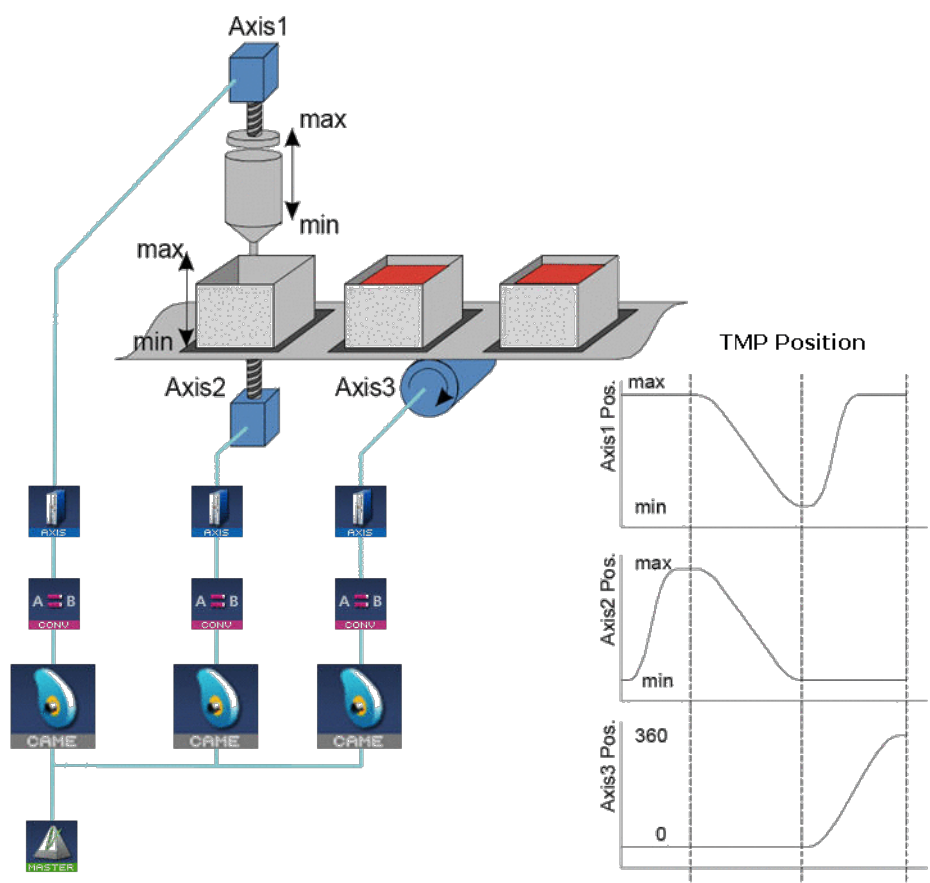

Figure 4-20: Example: Cam Blocks Control Operation of a Three Axis Filling Mechanism
- All three axes track the main machine motion profile produced by a TMP Generator. (Figure 4-20)